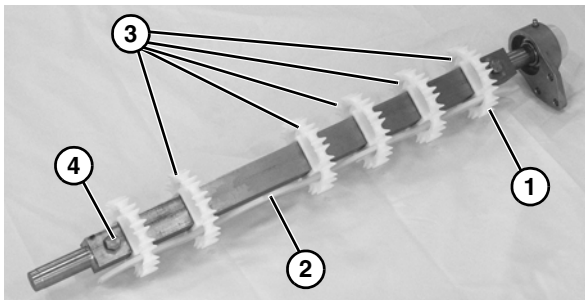

Figure 69
1. Slide the first sprocket (**Figure 69, item 1**) onto the spindle shaft.
2. Insert the sprocket alignment bar (**Figure 69, item 2**) into the first sprocket (**Figure 69, item 1**). Position the first sprocket with the notch in the sprocket alignment bar.
3. Install the remaining sprockets (**Figure 69, item 3**) making sure to position each sprocket with the next available notch in the sprocket alignment bar.
4. Secure sprockets in place with bolt (**Figure 69, item 4**).